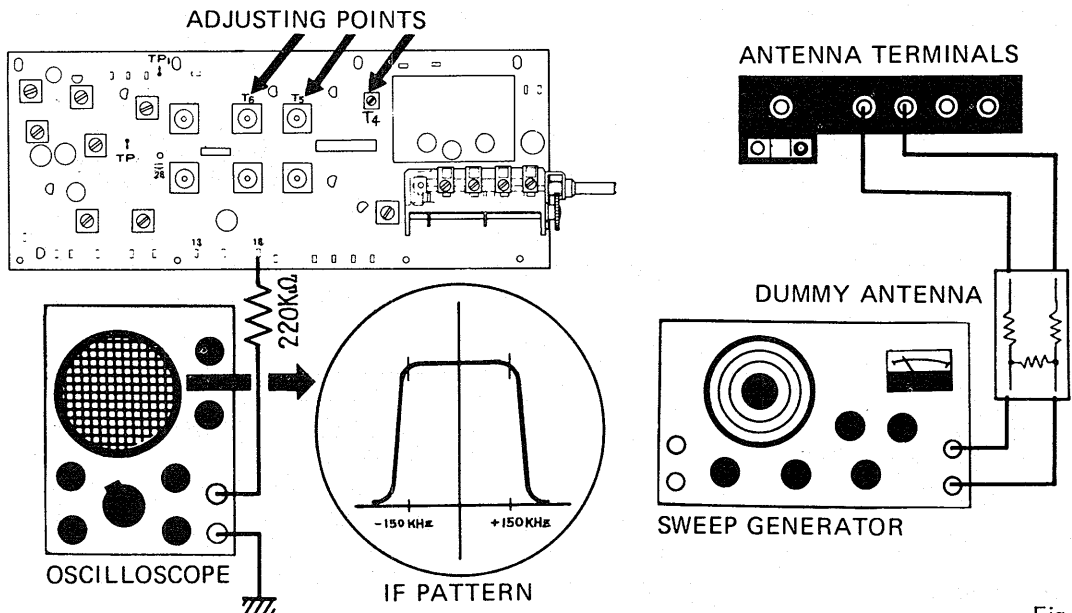

Fig. 7
- b) Connect a  $220\text{k}\Omega$  resistor in series with the vertical input terminals of the oscilloscope (Fig. 7).
- f) Connect the output leads of the sweep generator to the FM antenna terminals (Fig. 7).
- i) Adjust the FM IFT cores (T4, T5, T6) as shown in Fig. 7.